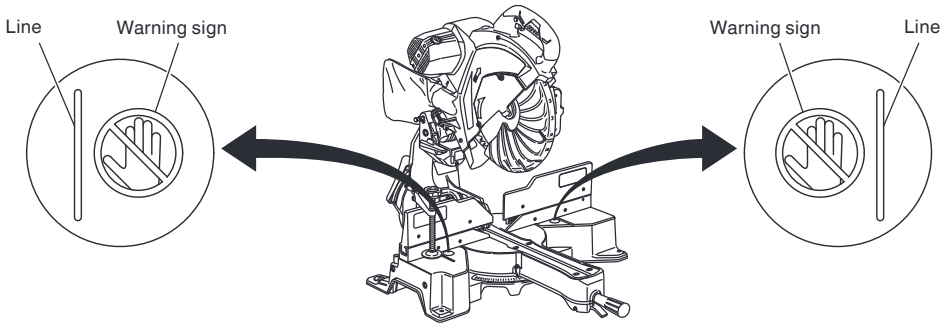

Fig. 21
* Never place your limbs inside of the line next to warning sign while the tool is being operated. This may cause hazardous conditions (see Fig. 21).